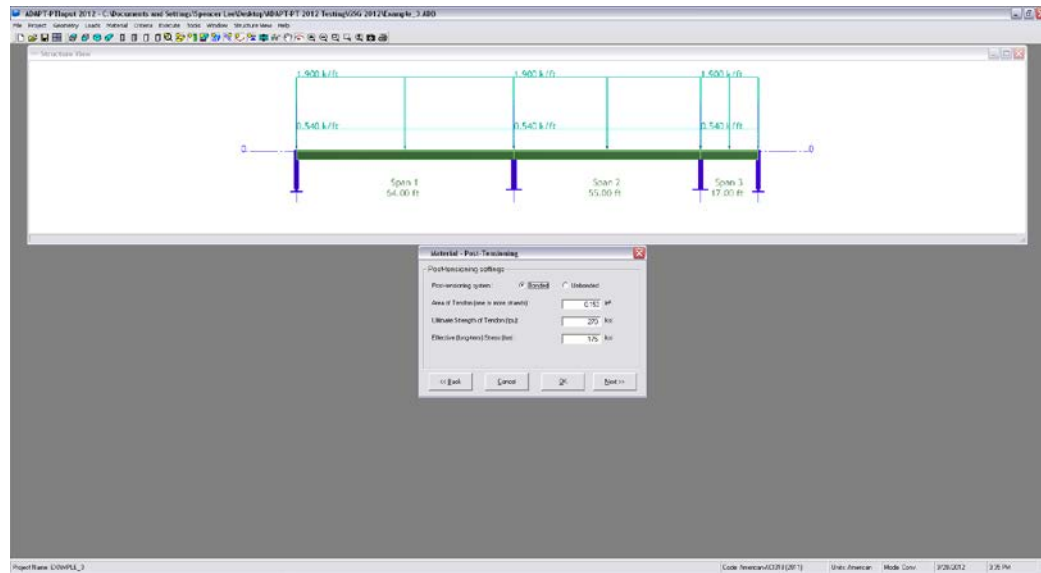

FIGURE 4.2-11
4.2.4.3 Enter The Post-Tensioning System Parameters (Fig. 4.2-11)